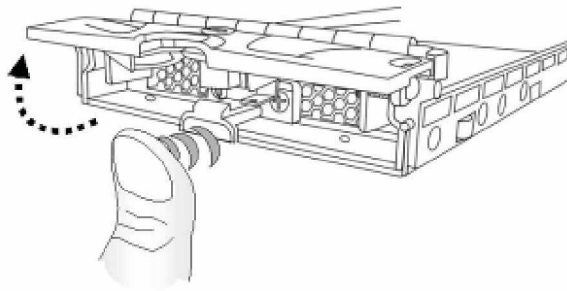

Figure 2-5: Opening the Drive Tray Front Flap
Step 2. Open the front flap on the drive tray (see **Figure 2-5**) by pushing the release button on the front of the drive tray. The front flap will open in an upward direction.